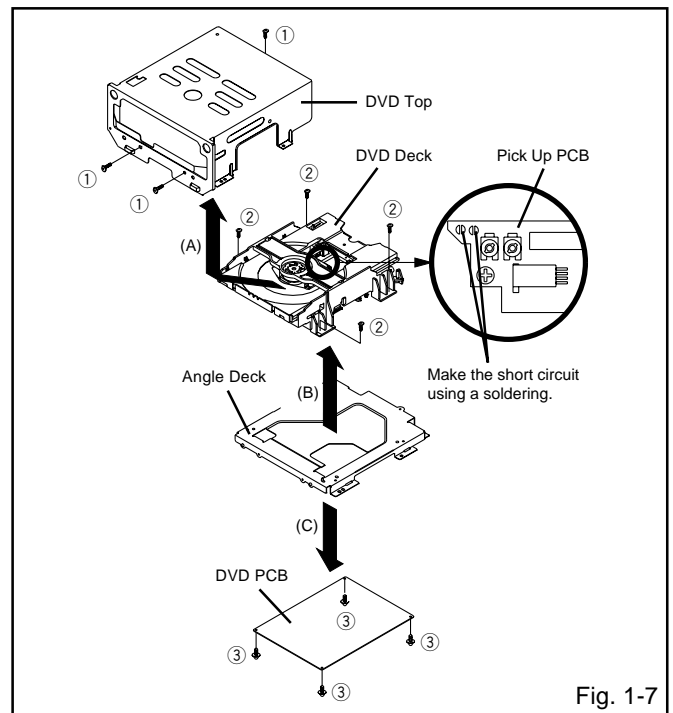

Fig. 1-7
1-7: DVD PCB/DVD DECK (Refer to Fig. 1-7)
1. Make the short circuit on the position as shown Fig. 1-7 using a soldering. If you remove the DVD Deck with no soldering, the Laser may be damaged.
2. Remove the 3 screws ①.
3. Remove the DVD Top in the direction of arrow (A).